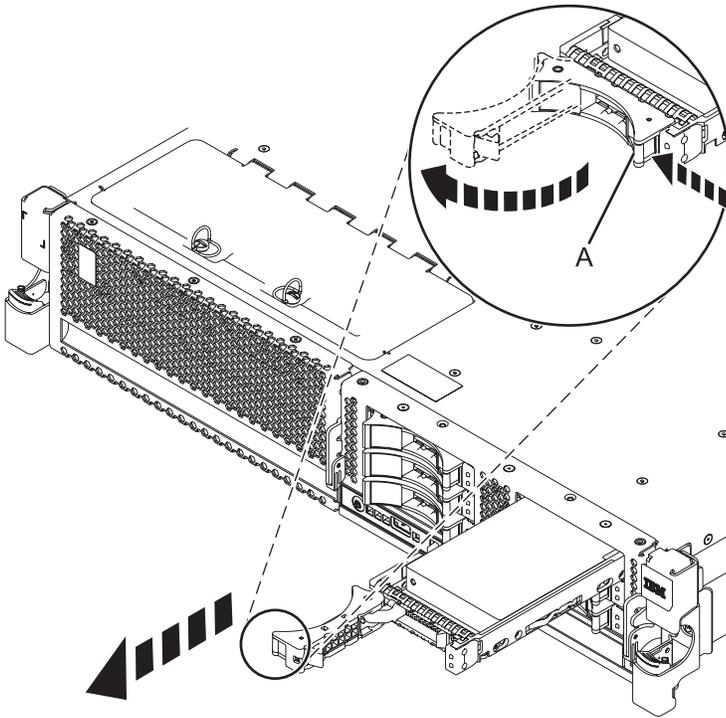

Figure 28. Removing the disk drive from the backplane
- 1) Unlock the disk drive handle (A) and pull it toward you to unseat the disk drive.
- 2) Place one hand under the disk drive and carefully pull the drive out of the system as shown in Figure 28 on page 40.